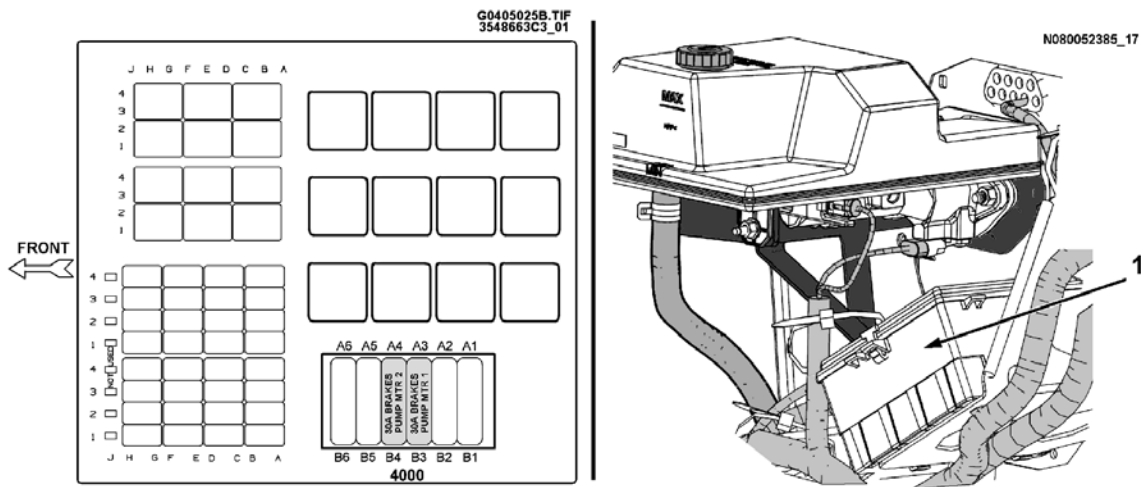

Figure 32 Location of Motor Fuses In Power Distribution Center
2. Set the ignition key to OFF and remove the two 30 Amp fuses (A3 and A4) that provide power to the brake system motors. The fuses are in the Power Distribution Center (PDC) located near the master cylinder (refer to FIGURE 32).